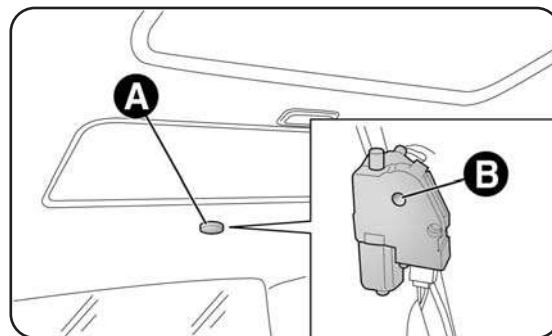

fig. 54
- remove protective cap A - fig. 54 on the rear part of the internal cover;